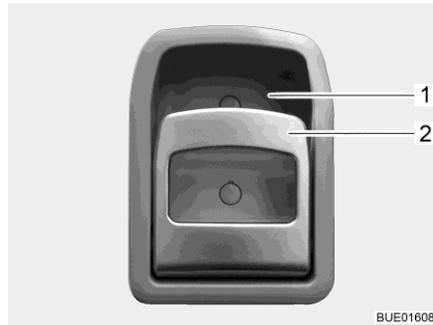

Fig. 51 Door lock (conversion door, inside)
- Opening:** ■ Pull on the handle (Fig. 51,2). The door lock is unlatched or opened.
- Locking:** ■ Press the upper part of the handle (Fig. 51,2) in the direction of the recessed handle (Fig. 51,1). The door lock is locked.